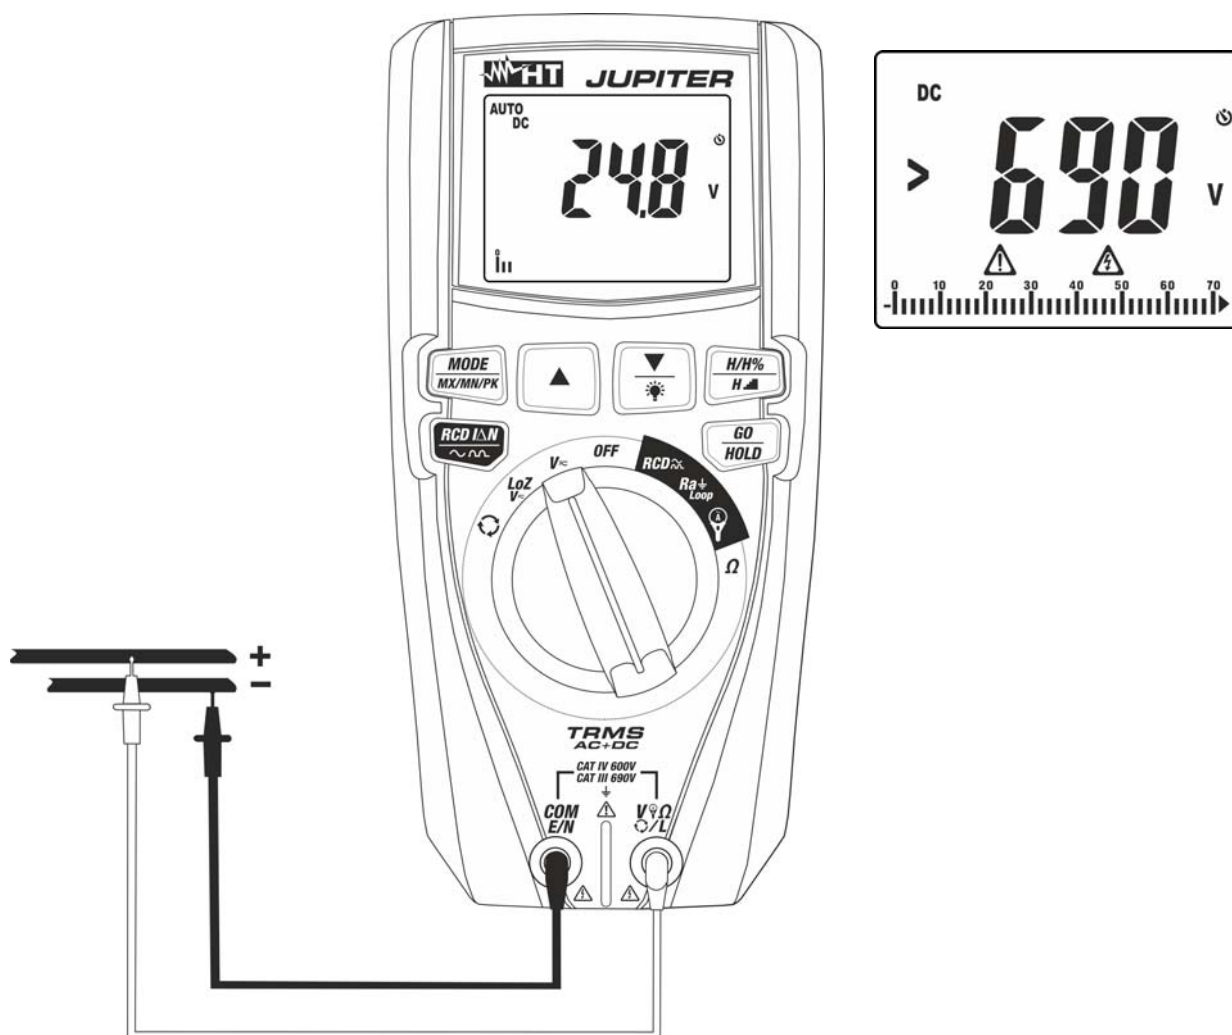
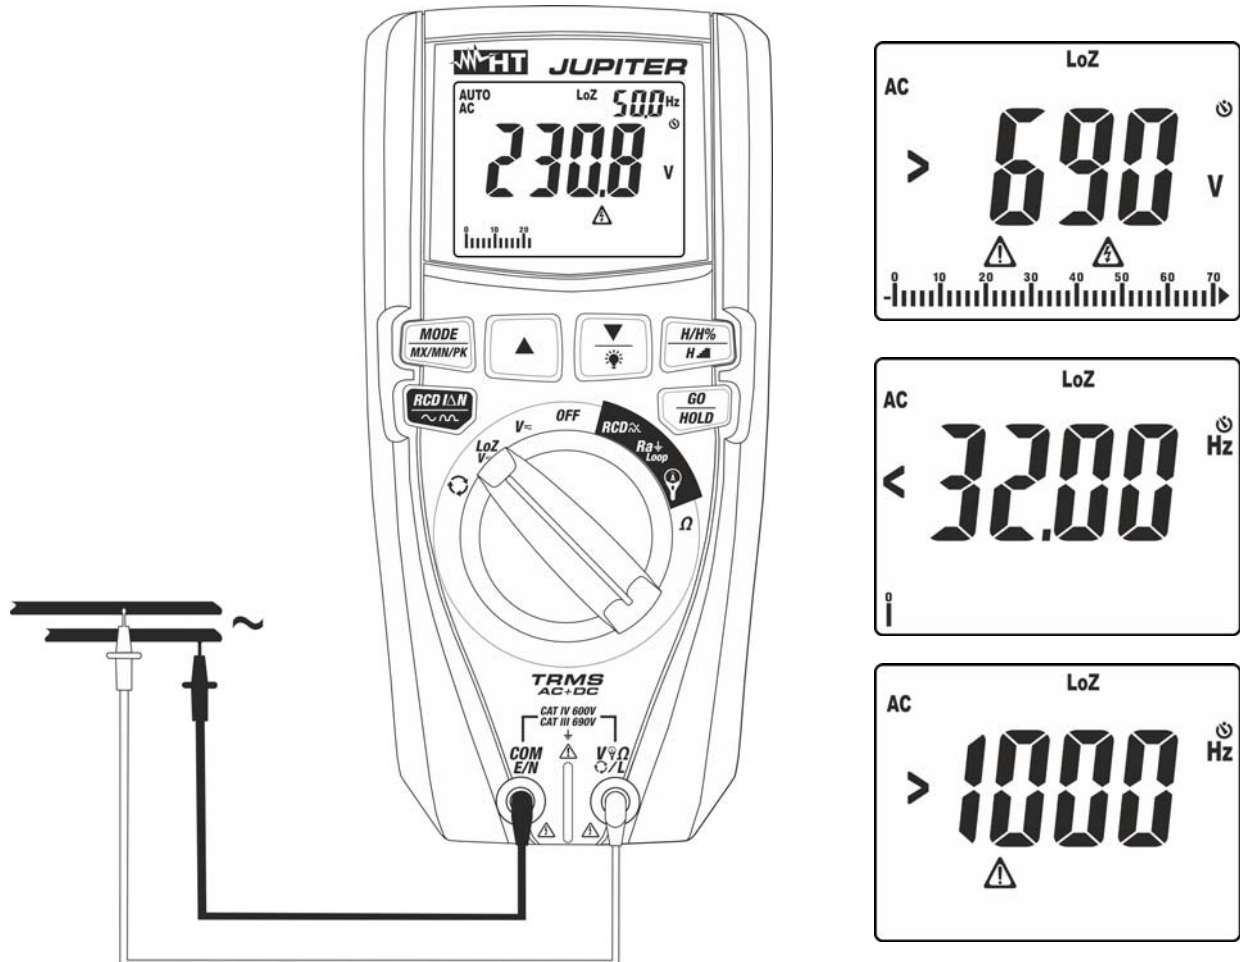

Fig. 8: Use of the instrument for DC voltage measurement
Fig. 10: Use of the instrument for AC/DC voltage measurement with LoZ function
3. Position the red lead and the black lead respectively in the spots with positive and negative potential of the circuit to be measured (see Fig. 8). The display shows the value of voltage.
4. If the display shows the message ">690V" (see Fig. 8), the maximum measurable value has been reached.
5. When symbol "-" appears on the instrument's display, it means that voltage has the opposite direction with respect to the connection in Fig. 8.
4. Position the red lead and the black lead respectively in the positions of the circuit to be tested (see Fig. 10) for AC voltage measurement or in the positions with a positive or negative potential of the circuit to be tested (see Fig. 8) for DC voltage measurement. The display shows the value of voltage. On the top of the display on the right side, the value of voltage frequency is displayed. Press key **MODE/MXMNPK** to display the value of frequency with a higher resolution.
5. If the display shows the messages "<32Hz" or ">1000Hz" (see Fig. 10), the value of frequency is out of the measuring range **32Hz ÷ 1000Hz**.
6. When symbol "-" appears on the instrument's display, it means that voltage has the opposite direction with respect to the connection in Fig. 8.